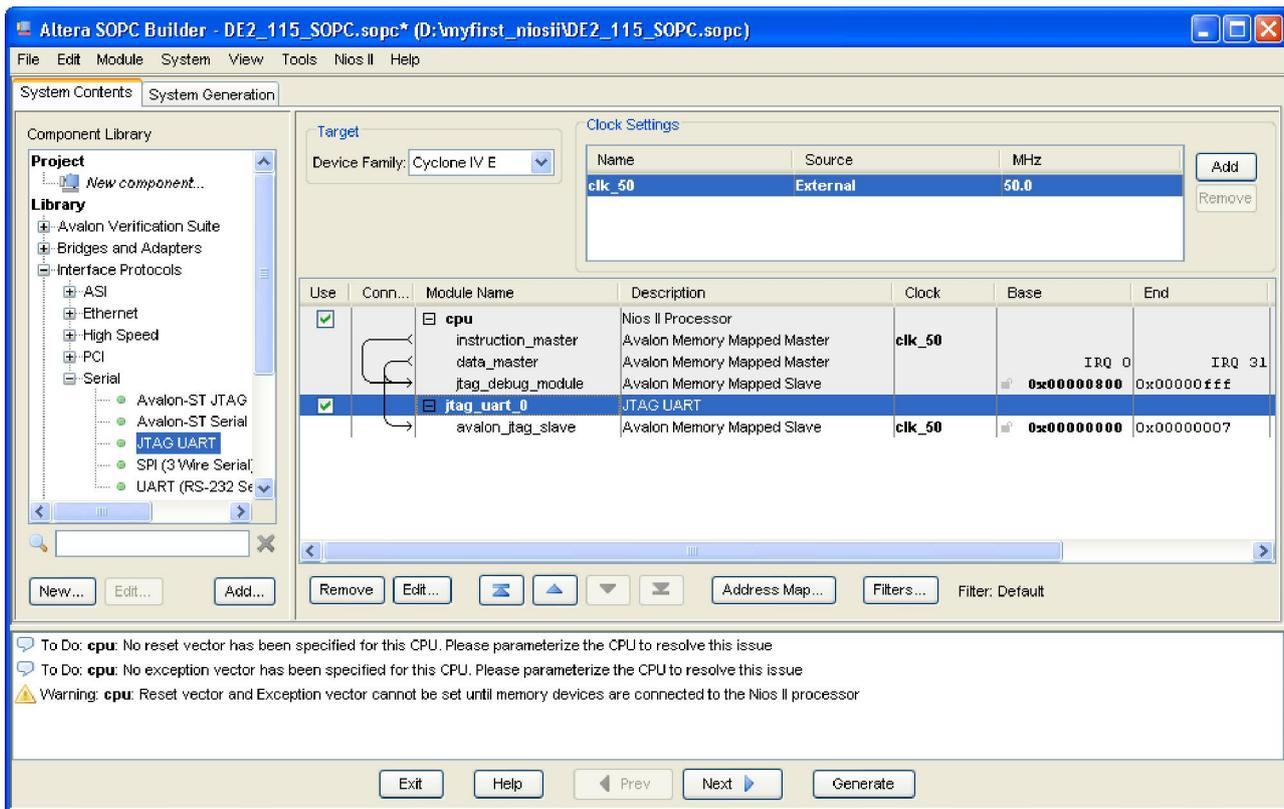

Figure 1-21 JTAG UART
12. Click **Finish** to close the wizard and return to the window as shown in Figure 1-21.